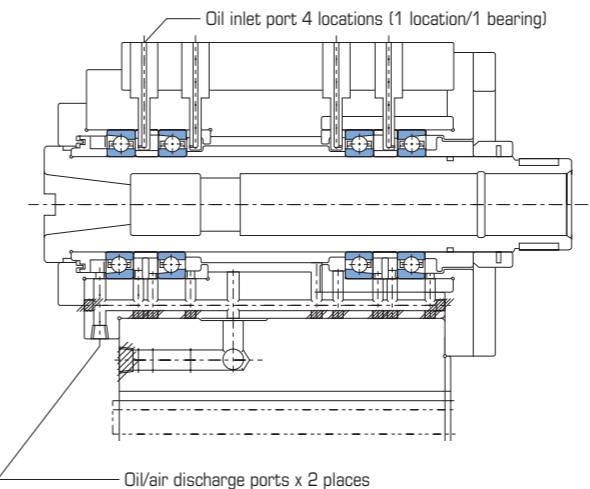

Figure 6.4 Example of Spindle Unit Using Oil Air Lubrication
③ Oil air lubrication
- Figure 6.4 shows an example of oil air lubrication.